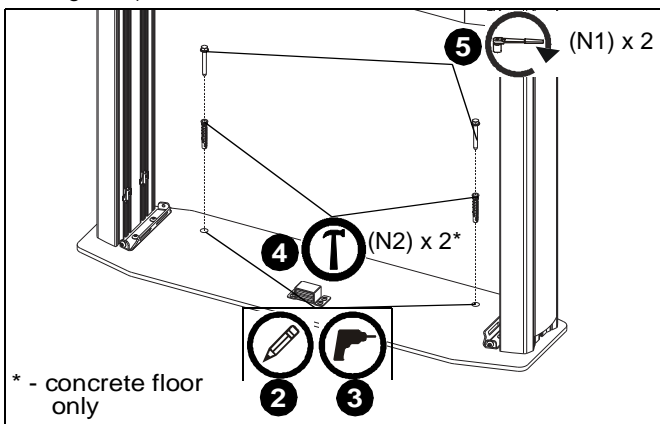

Figure 8
2. Mark hole locations at each floor mounting location. (See Figure 8)
3. Drill two 7/32" holes if installing to wood floor or 3/8" holes if installing to a concrete floor. (See Figure 8)
4. If installing to concrete floor only, use a hammer to install anchors (N2) to two holes drilled in floor. (See Figure 8)
5. Install two 5/16 x 2 1/2" hex head cap screws (N1) through floor holes and into drilled holes in floor or anchors. (See Figure 8)